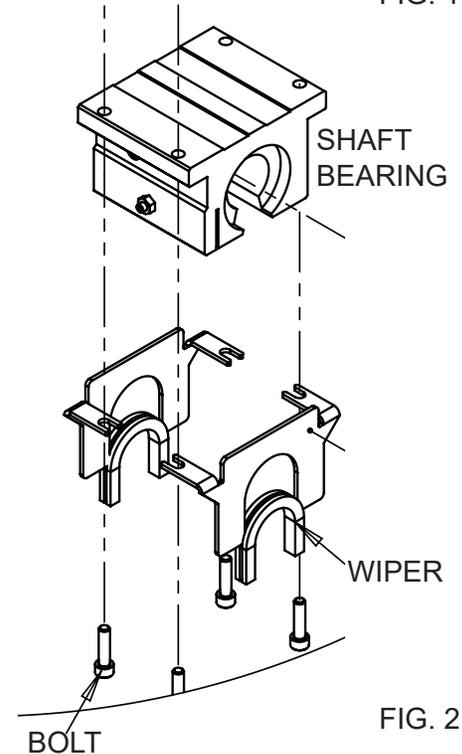

FIG. 2
6. Attach the left and right bellows bracket (Items 6 & 7, Figure 2) to the underside of the carriage using the four socket head cap screws shown (Item 1). Then attach the rear mounting bracket (Item 5) to the left and right bellows brackets using two Push in rivets. Plug the holes in the rear mounting bracket with the two hole plugs (Item 3).